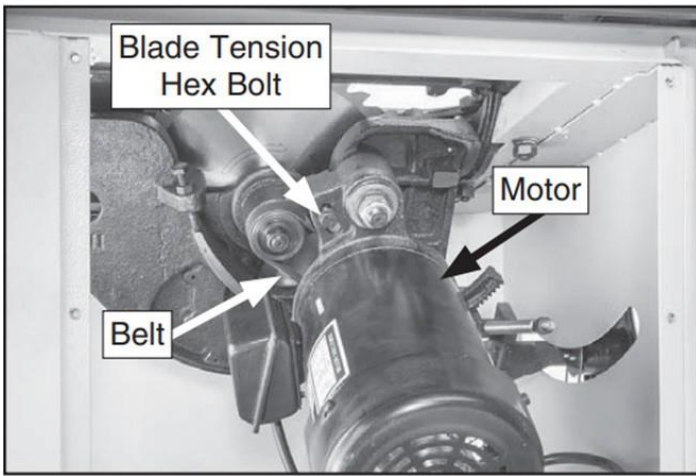

Figure 67: belt tensioning hex bolt.
- 4 - Loosen the hex bolt, see figure 67 to relieve the tension on the belt.